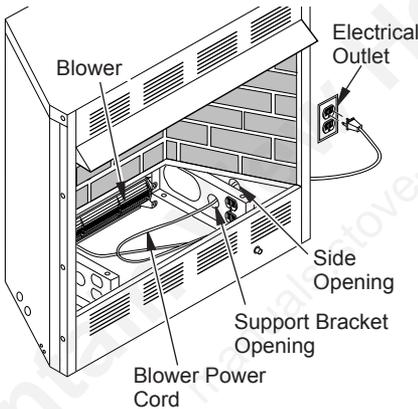

Figure 8 - Routing Blower Accessory Power Cord for Conventional Installation
2. Before replacing bottom of firebox, route blower power cord through hole in support bracket in bottom of firebox and through hole in side of firebox to grounded, three-prong 120 volt electrical outlet (see Figure 8). Plug electrical cord into outlet.